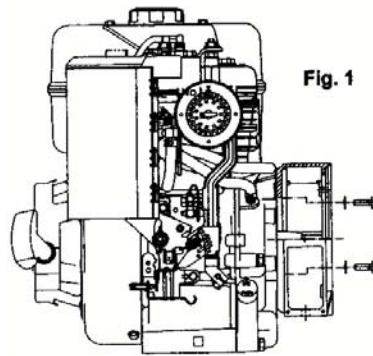

Fig. 1
-) mount the front cover on the motor fixing it with the appropriate screws and applying a tightening torque of $48 \pm 7\%$ Nm If using M10 screws or $21 \pm 7\%$ Nm for M8 screws (figure 1)